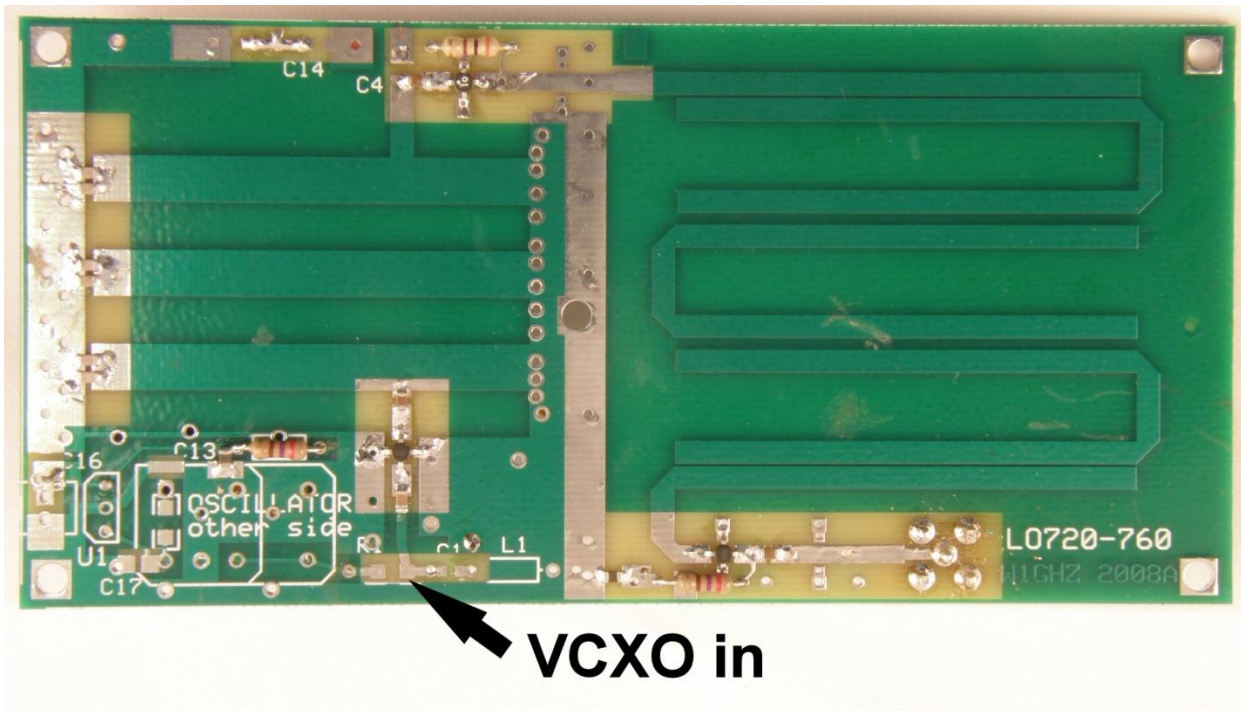
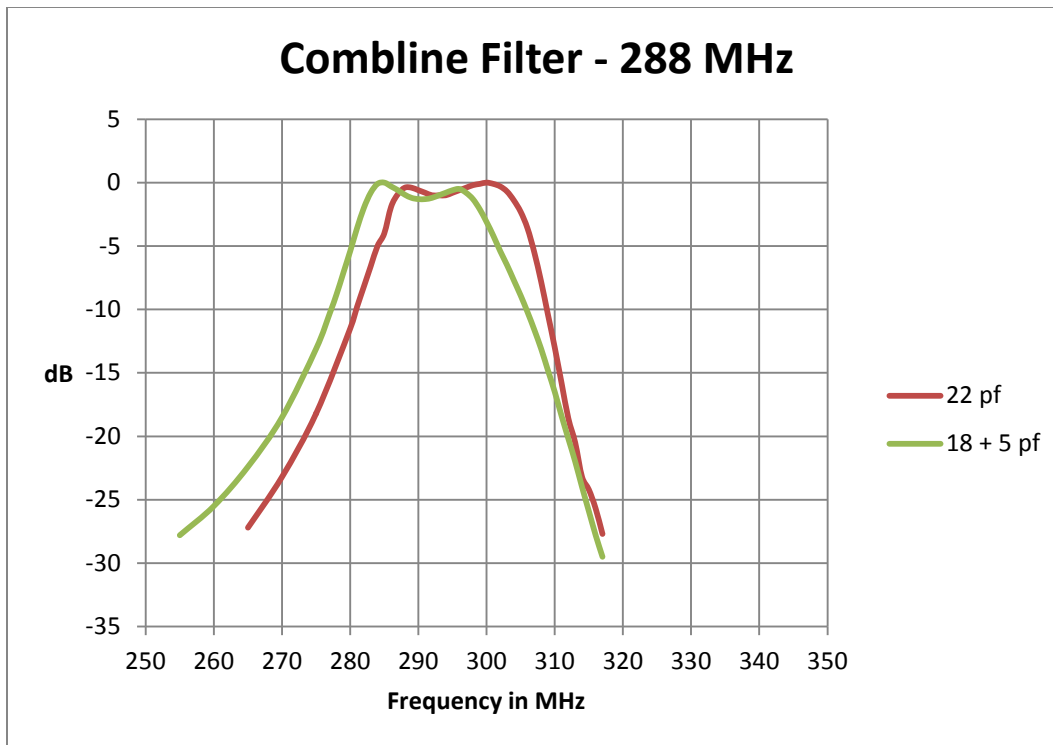
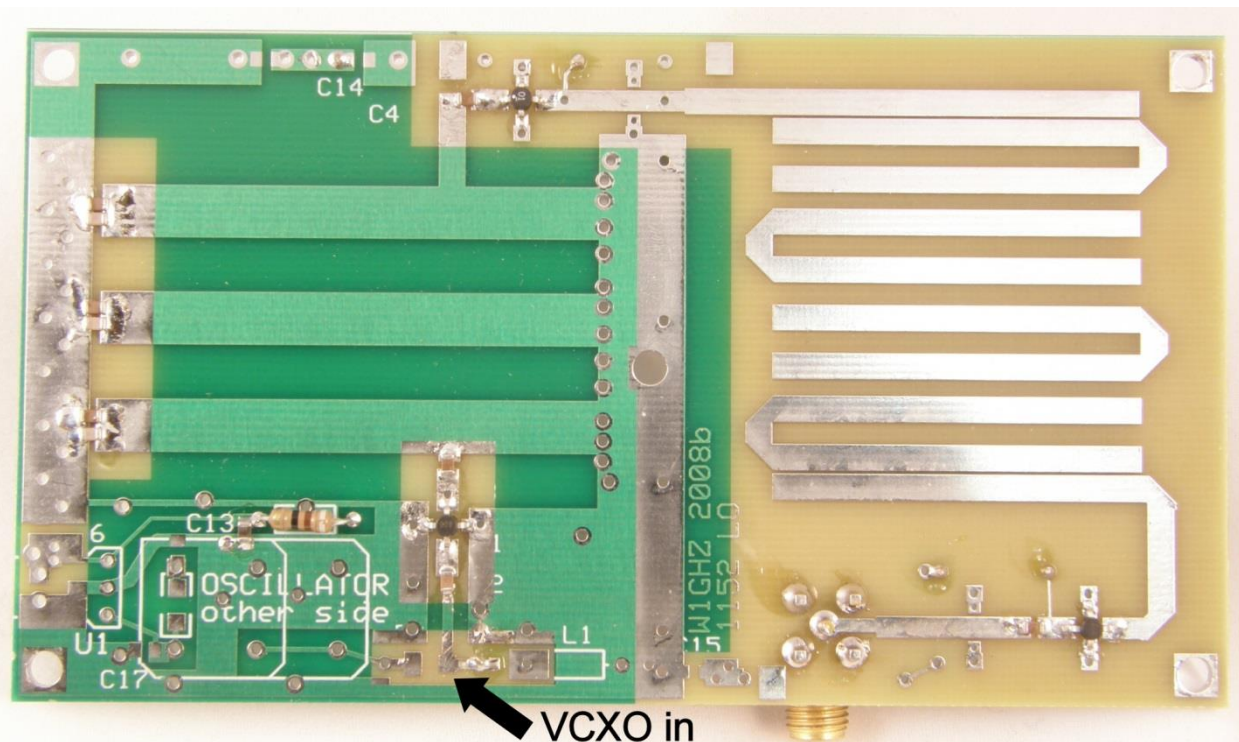

**Figure 7 – 120 MHz VCXO board**
Figure 9 – Response of Comblin Filter for 288 MHz
Figure 10 – 1152 MHz multiplier board configured for external 96 MHz VCXO input
**120 MHz** – provides a stable LO for 144 MHz. As shown in Figure 7, the prescaler is a MC12080 programmed to divide by 10, to 12 MHz. Selection of divide-by-10 requires changing both pins 3 and 6 from ground to high, by cutting the PCB traces and adding jumper wires from pin 3 to pin 2 and from pin 6 to pin 7. The rest of the wiring is the same as the 96 MHz board. This board also locks right up; the output has small spurs 1 MHz on each side of the main output.
The 1152 MHz LO board originally used a 64 MHz crystal oscillator. To operate with 96 MHz input from the VCXO, the filter after the first tripler must be tuned to 288 MHz. With the 64 MHz oscillator, the combline filter was tuned to 192 MHz by capacitive loading of 36 pf (two 18 pf capacitors in parallel for lower loss). From the chart, Figure 7, in my transverter article2, I estimated the required capacitance for 288 MHz as 22 pf. The filter response in Figure 9 shows that the filter is tuned slightly high, with 288 MHz at the edge of the response. Increasing the capacitance to 23 pf, an 18 pf in parallel with 5 pf, centered the filter near 288 MHz. The parallel capacitors slightly reduced the loss. The input connection to this multiplier board, shown in Figure 10, is similar to the one in Figure 8.